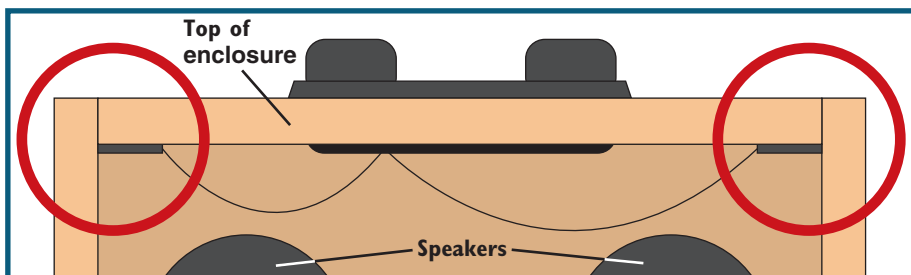

Fig. 3 - Back view (Back panel removed for clarity)
8. Fit one of the antenna wires as far as you can away from the speakers inside one end of the enclosure and press the adhesive on the module(s) against the underside of the top. **Fig. 3 and 4.**
9. Fit the other antenna wire as far as you can away from the speakers inside the other end of the enclosure and press the adhesive on the module(s) against the underside of the top. **Fig. 3 and 4.**